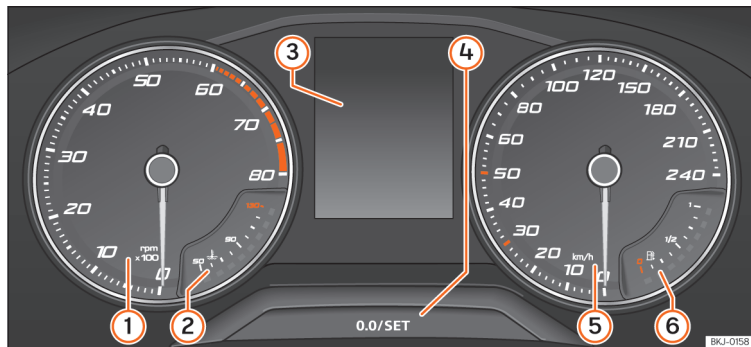

Fig. 69 Instrument panel, on dash panel.
Details of the instruments » **Fig. 69:**
- Briefly press the button **0.0/SET** » » Fig. 69 ④ to reset the trip recorder to 0.
- Keep the button **0.0/SET** ④ pressed for about 3 seconds and the previous value will be displayed.